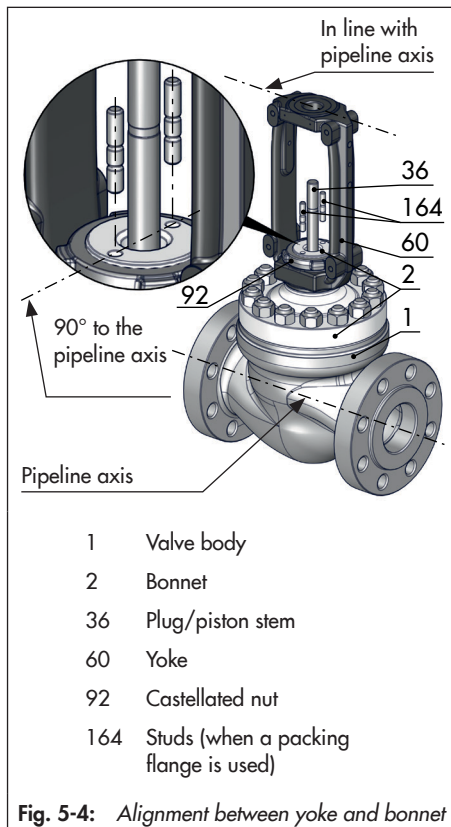

Fig. 5-4: Alignment between yoke and bonnet
2. Fasten the travel indicator scale (84) with hanger (83) and warning label (255), if applicable, to the yoke (3) using the screws (82). While fastening it, position the travel indicator scale (84) on the hanger (83) according to Table 5-4.
3. Screw tight the holder (302) using the screws (306) and washers (308). Observe the tightening torques specified in Table 5-3.
4. Place the yoke (3) on the bonnet in such a way that the two holes on the top of the bonnet are aligned with the open sides of the yoke (see Fig. 5-4).
5. Fasten the yoke (3) using the castellated nut (92).
- i. Place the packing flange (162) over the studs (164) of the valve bonnet (2/21) on the packing follower (8).
- ii. Thread the two packing nuts (163) and their washers (or disk springs when packing flange is loaded by external spring elements) onto the studs (164) and hand-tighten them. Guide the packing nuts (163) through the holes in the packing flange of the spring-loaded packing.